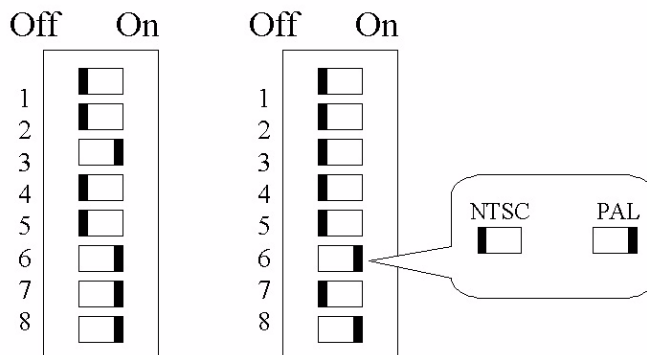

Figure 3-52 Video Converter Dip Switch Positions
- 5.) Follow the manufacturer's guidelines to set the switches to the correct positions, as shown in Figure 3-52 on page 3-54.
- 5.) Follow the manufacturer's guidelines to set the video converter dip switches to the correct positions (refer to Figure 3-52 on page 3-54).